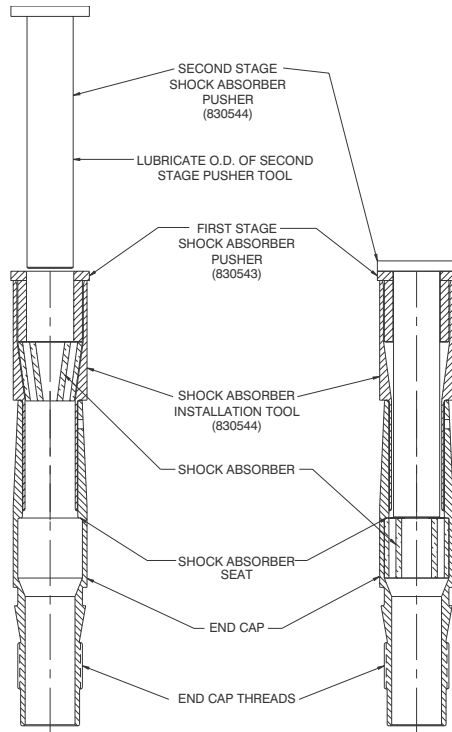

Figure 9-13. Press The Shock Absorber into The End Cap
7. Insert the the Second Stage Shock Absorber Pusher Tool, 830544, into the First Stage Shock Absorber Pusher Tool, 830543 as shown in Figure 9-13-A.
8. Press the Shock Absorber into the End Cap until it seats against the shoulder at the non-threaded end of the cap as shown in Figure 9-13-B.